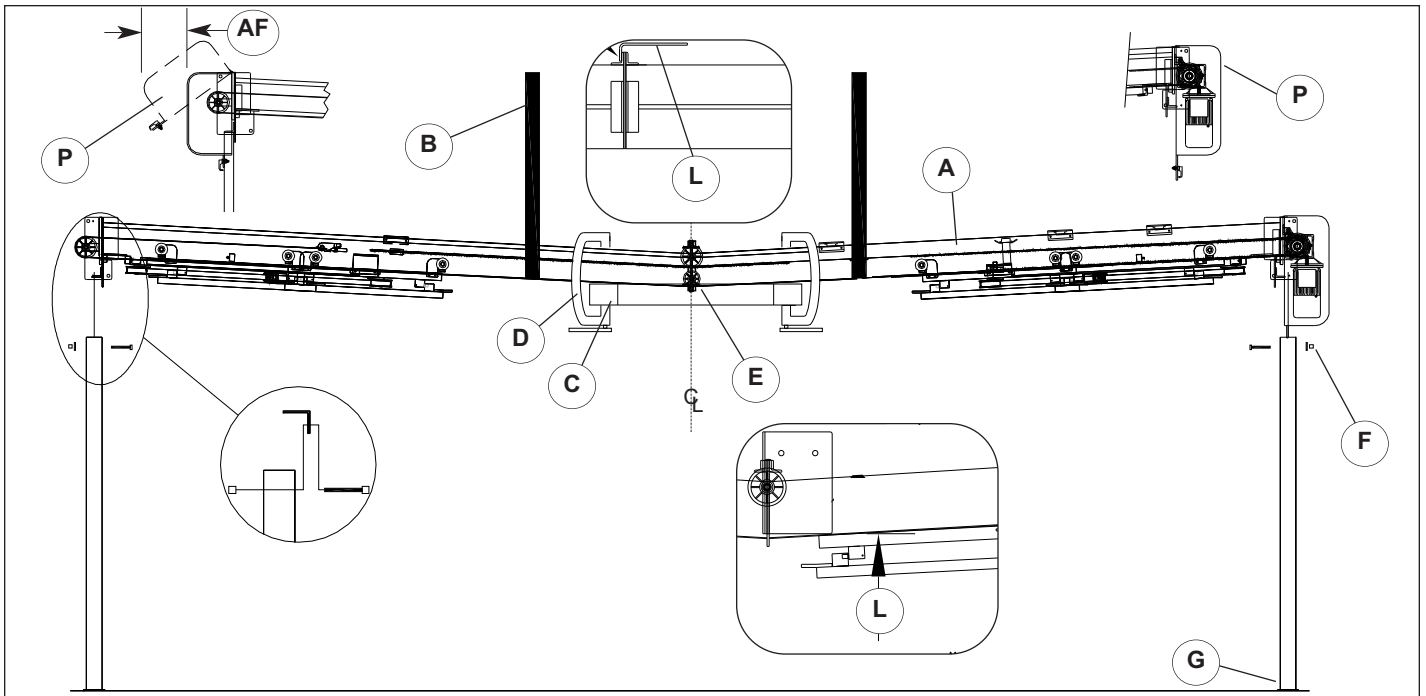

Figure 8.1
1. The preferred method of raising the header (A) is to lift with two cargo straps (B), (rated for 1000lb [454 kg] minimum each). Straps may need to slide toward drive side, as it is heavier and can cause the header to be unbalanced. Be sure to route the straps underneath all belting to prevent damage to the drive system.
2. Cut wire tie and slide trolleys to the end of the header to make room for straps or dunnage (C).
3. Place the header in front of the jamb and center so it is in the proper place when lifting, **Figures 8.1 & 8.2.**
4. Make sure to clamp (D) forks opposite the motor to prevent straps or dunnage from sliding off and the header from tipping.
16. Rear header bracket mounted at O.D.H. + 10" [254] (L), **Figure 8.1.**
17. End caps (P) are optional for the drive and non-drive sides, and require 10"156" [254-381] (AF) clearance to open, as they hinge at the top, and lift upward. To remove end caps, lift latch handle and pull upward.